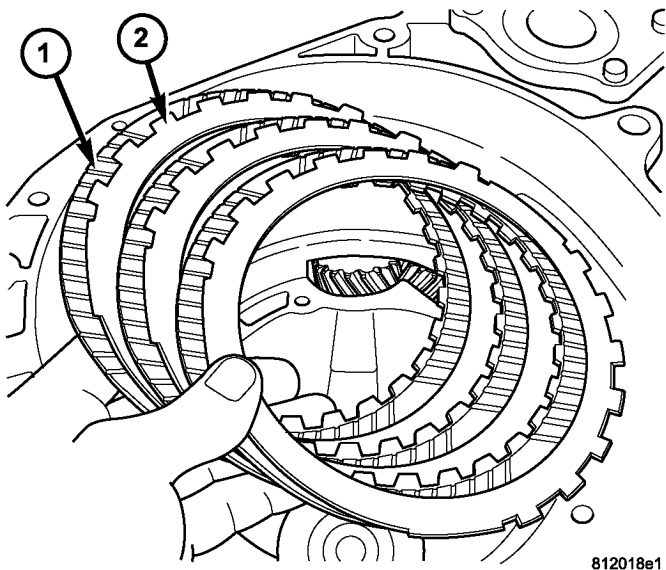

Fig. 130 Install 2/4 Clutch
(44) Install 2/4 clutch pack (Fig. 130).